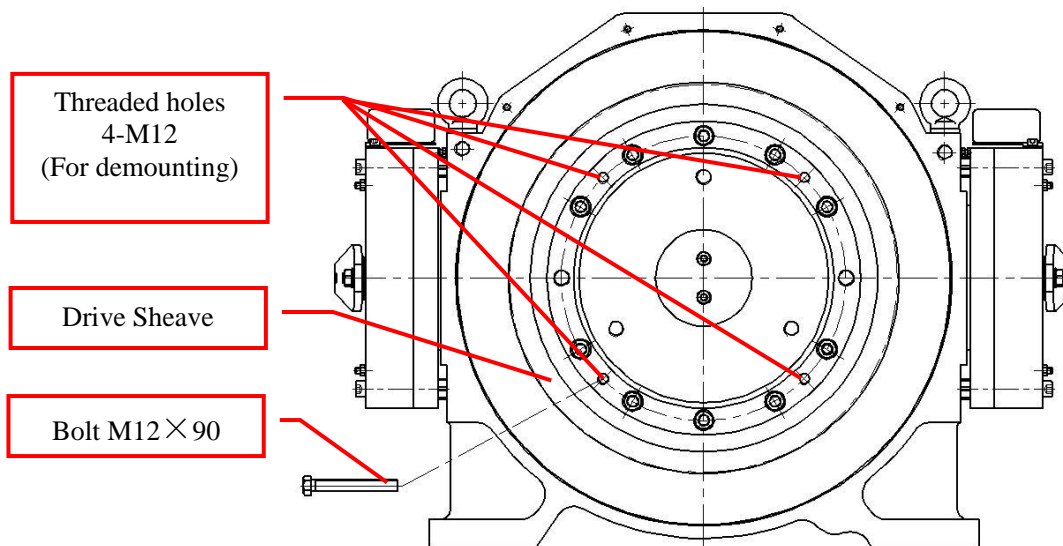

Figure 36: Use M12x90 bolts to loosen the drive sheave
4. Screw two bolts M12×90 into the corresponding threaded holes of the Drive Sheave, then tighten the bolts slowly until the Drive Sheave is pushed loose, and then remove the it and spring pins 16×75 (2pcs). See Figure 36.